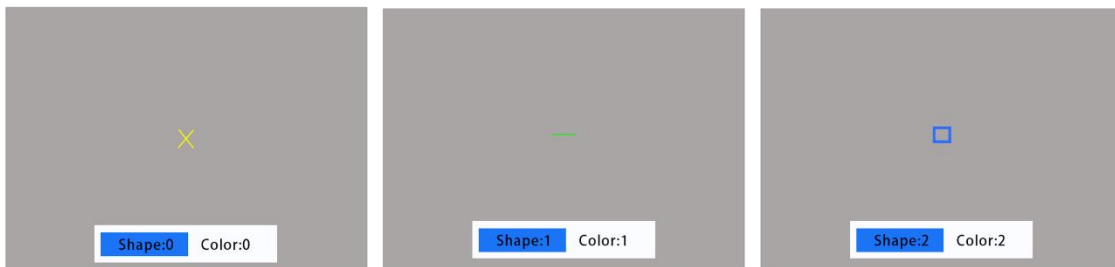

Fig. 21
- Reference Point Shape and Color: The ballistic calculator allows customization of point shape and color. You can choose from three shape options and select yellow, green, or blue as the color for the aiming point as shown in Fig. 21.